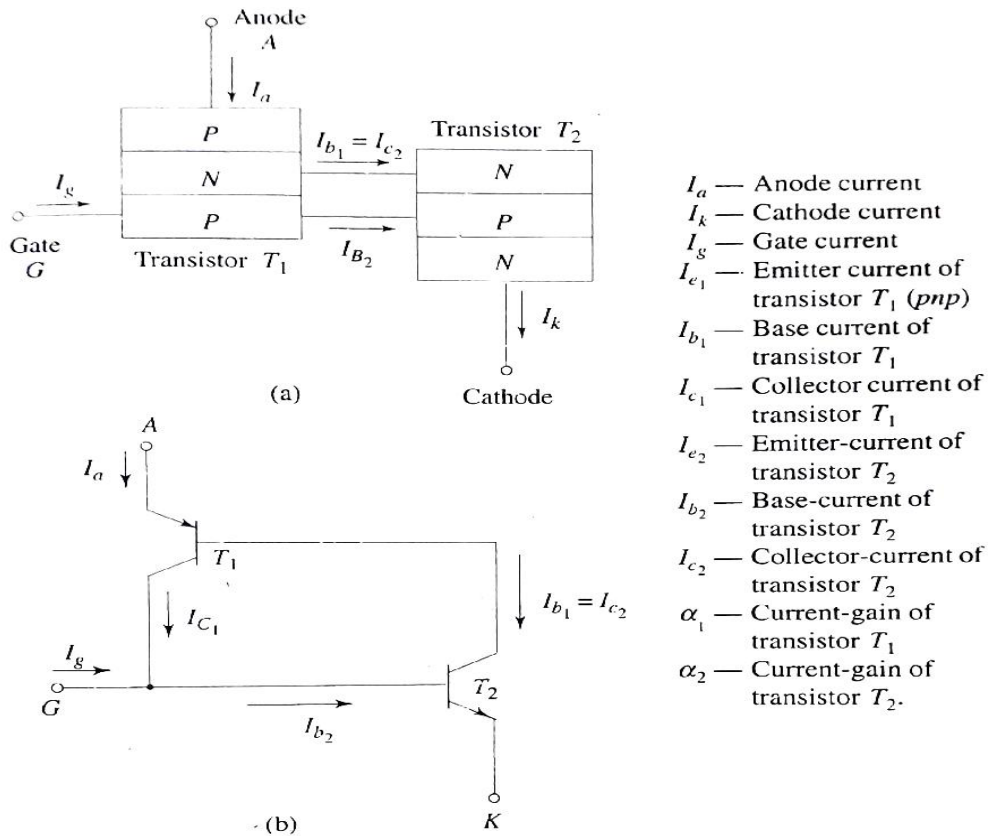

Fig. 1.4 Two transistor analogy of SCR
- The SCR can be considered as an **npn** & a **pn**p transistor, where the collector of one transistor is attached to the base of the other & **vice-versa**, as shown in Fig.1.4.
From Fig. 1.4, it is evident that the anode current of the device becomes the emitter current of transistor T_1 that is
From the Fig. 1.4, it is also observed that the cathode current of the SCR becomes the emitter-current of transistor T_2 .